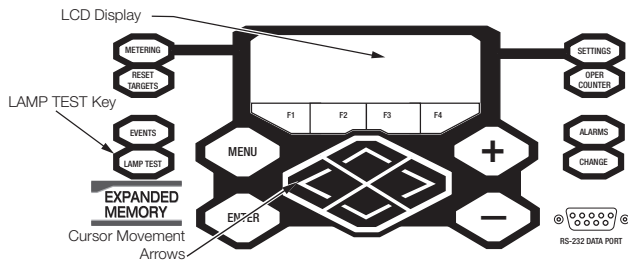

Figure 33. Lamp test button, LCD display, and cursor movement arrows
1. Verify operating status of all indicator lights by pressing and holding the LAMP TEST key for two seconds on the programming panel (**Figure 33**).
Note: Scroll through the LCD display messages by pressing the \blacktriangle and \blacktriangledown cursor movement arrows underneath the LCD display on the programming panel (**Figure 33**).